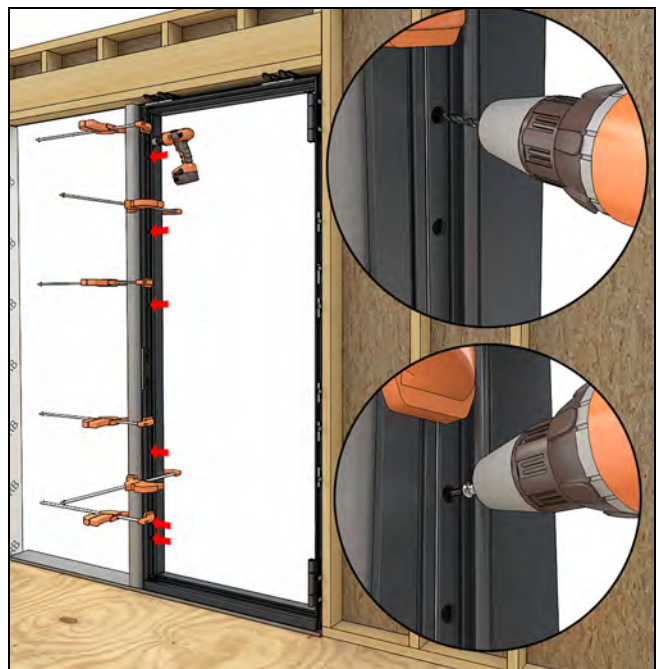

Figure 227
11. Using the pre-drilled installation holes in the frame as a guide, drill through the steel with a #23 bit. See Figure 227.